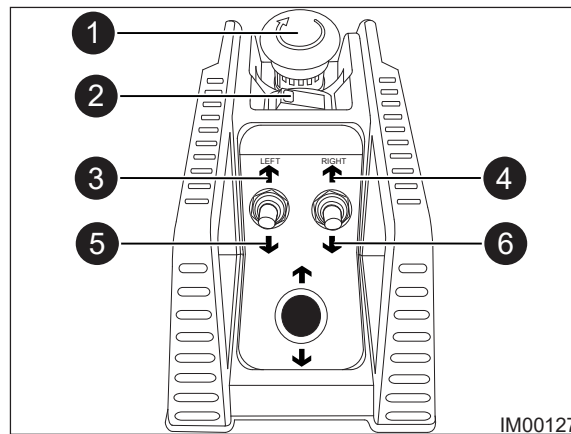

Fig: 6.3 - Umbilical Handset
3. Familiarise with the operation of the umbilical handset (Fig: 6.3), direction of travel, and safe tracking instructions prior to attempting to maneuver this machine.
7. Turn ON the Umbilical Handset by pressing the Switch (Item 2, Fig: 6.3).
- Push the Handset Off switch (Item 2, Fig: 6.3).